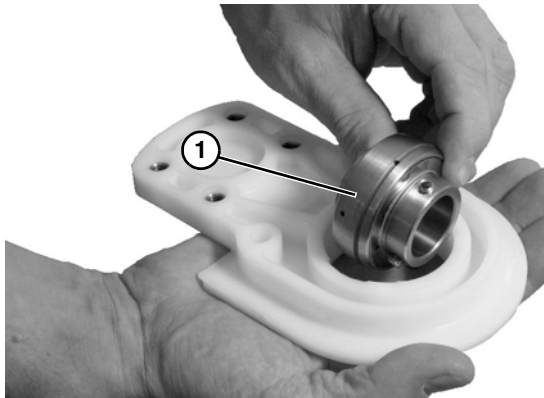

Figure 51
2. Twist the bearing out (**Figure 51, item 1**).